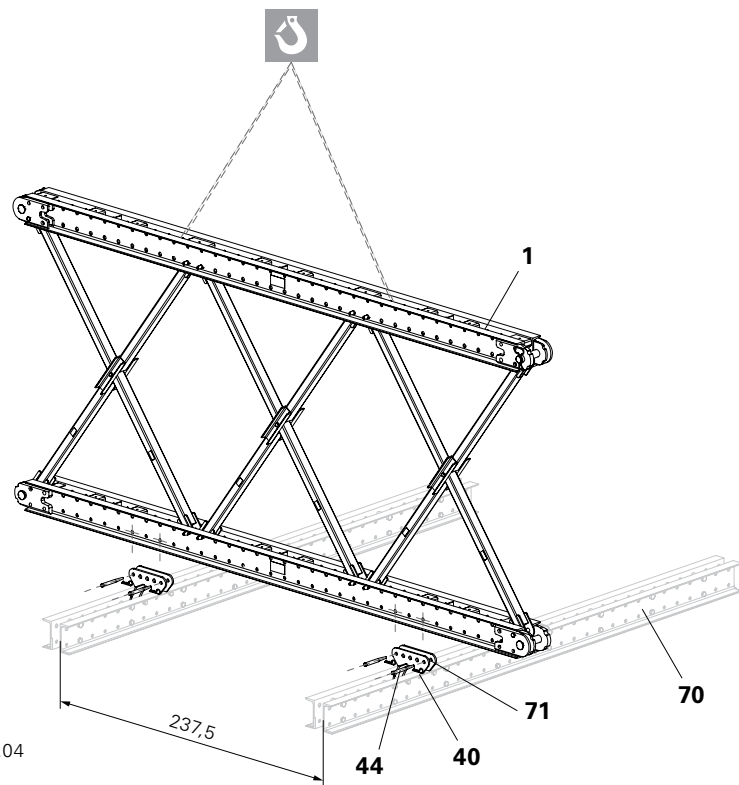

Fig. A1.04
- The Climbing Rail distance is 237.5 cm. (Fig. A1.04)
(Fig. A1.04)